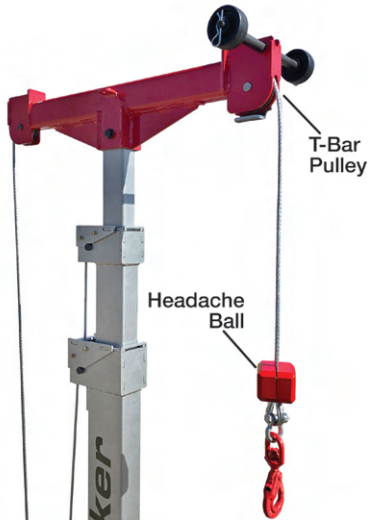

Figure 7-10: Keeping Space Between Headache Ball from T-bar Pulley
3. Before attaching to the load, raise the mast T-bar to the desired lift height (if lifting) or above the object to be lowered. Make sure you let out enough load cable while raising the mast so the headache ball does not jam into the mast T-bar pulley (see Figure 7-10).